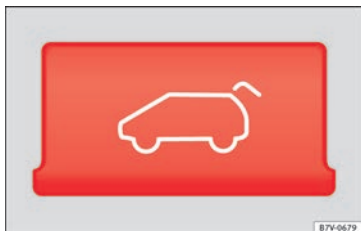

Fig. 6 Detailed view of the centre console button for unlocking the rear lid
- Press the  button on the centre console » » **Fig. 6**. The rear lid will be automatically opened.